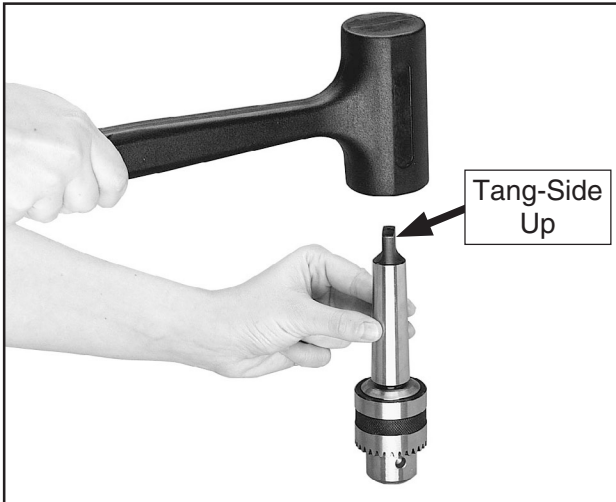

Figure 16. Seating arbor into chuck.
- Place the drill chuck face down on a workbench. The arbor has a short taper and a long taper. Place the short taper into the socket in the back of the drill chuck and tap it with a rubber or wooden mallet, as shown in **Figure 16**. If the chuck fails to remain secure on the arbor, repeat **Steps 1 & 2**.
4. Slide the arbor into the spindle socket while slowly rotating the drill chuck. The socket has a rectangular pocket where the tang (or flat portion of the arbor shown in **Figure 16**) fits into.